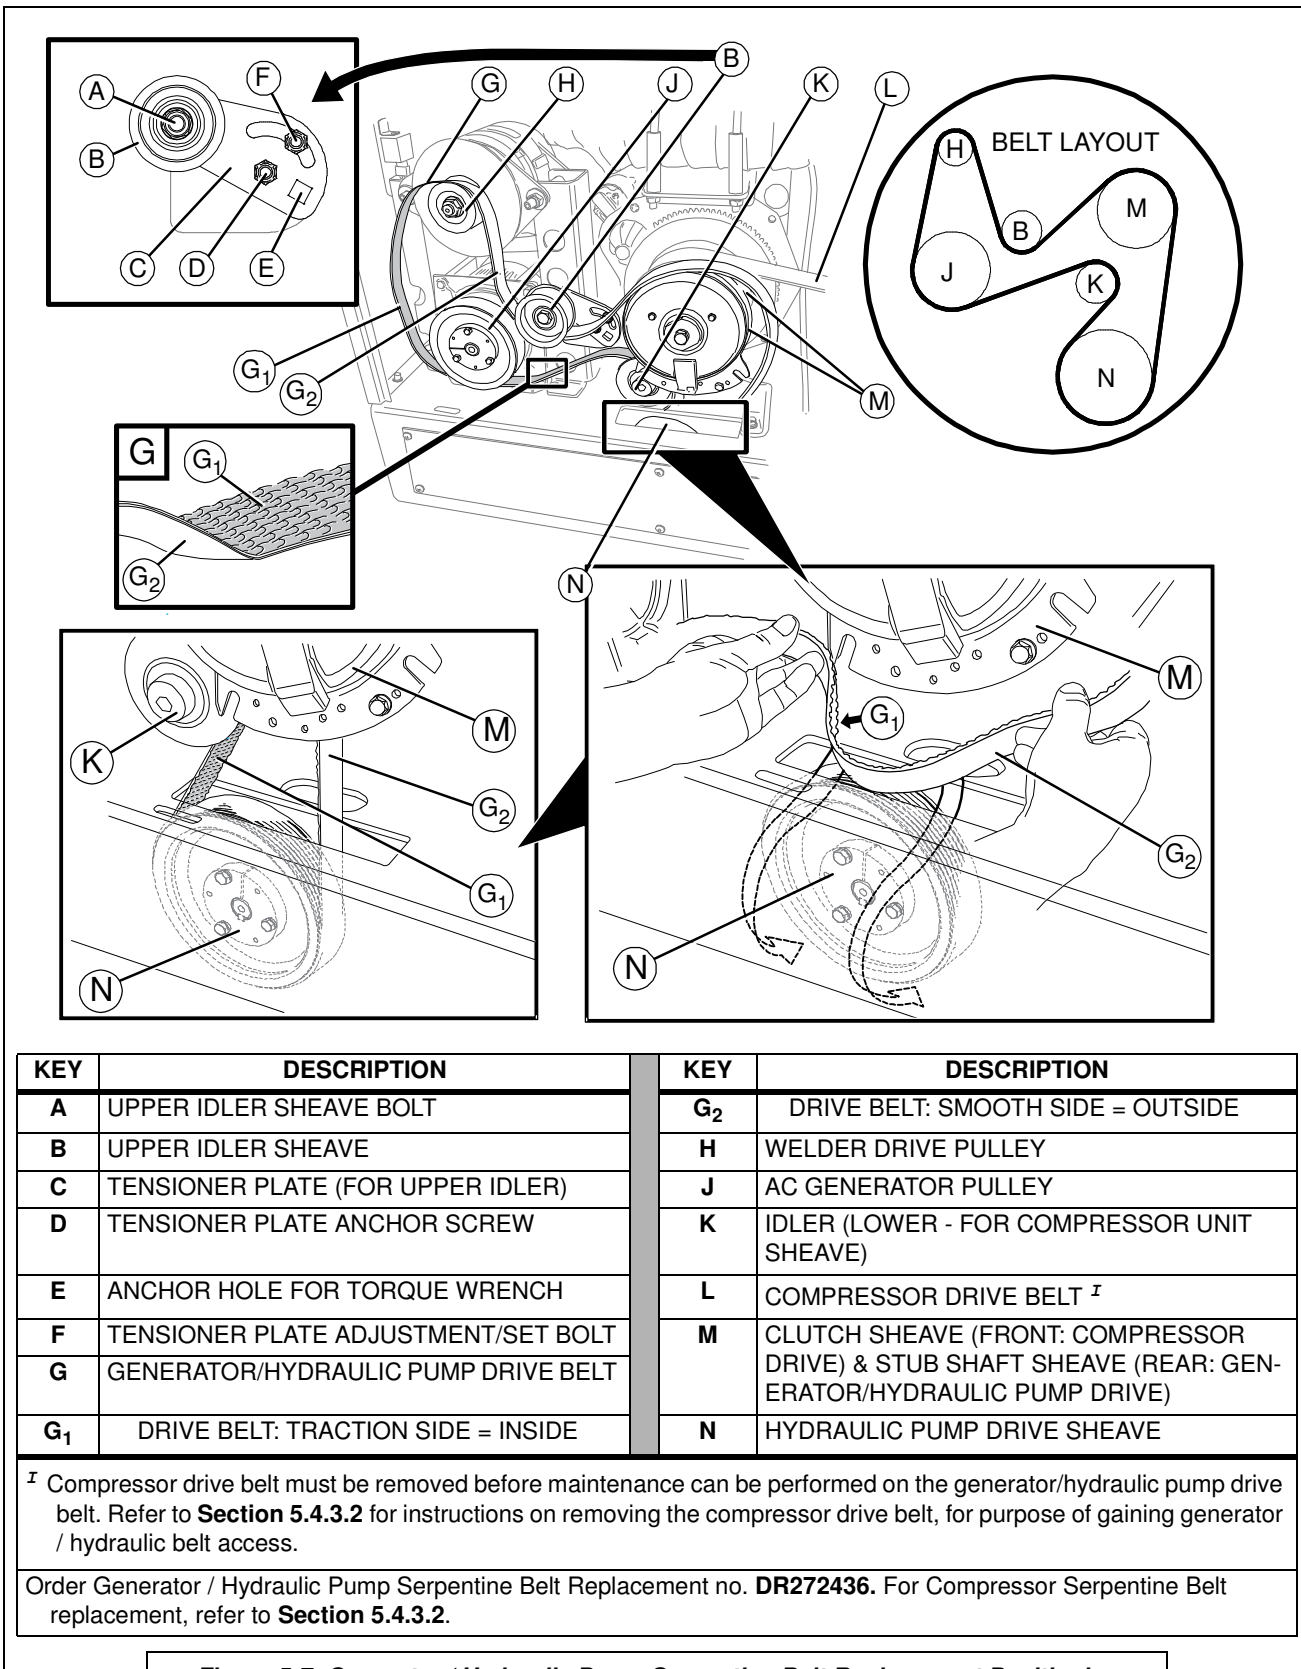

Figure 5-7: Generator / Hydraulic Pump Serpentine Belt Replacement Positioning
To replace the generator / hydraulic pump serpentine belt, the compressor drive belt must first be removed. Consult **Figures 5-4** (for clutch access to belts), **Figure 5-7**, and the following procedure:
The compressor drive belt must first be removed in order to access the generator/ hydraulic drive belt. Refer to **Section 5.4.3.2** for compressor serpentine belt removal. Once the compressor drive belt is removed, the worn generator serpentine belt can be replaced. Refer to **Figure 5-7** and the following steps:
2. Position and route the new generator serpentine belt as shown in **Figure 5-7**.